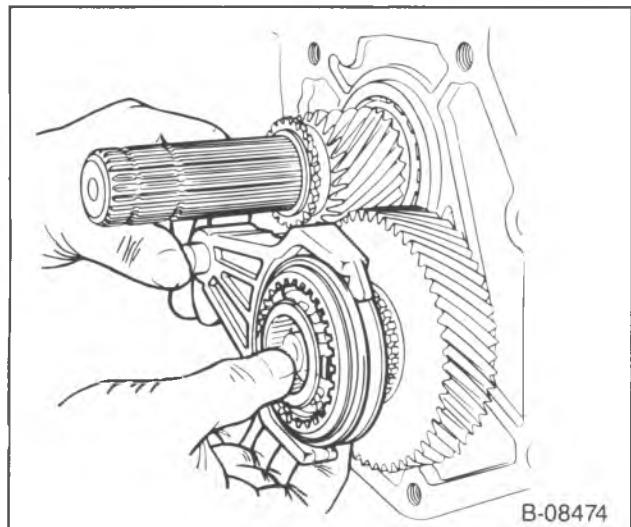

Figure 8—Removing the 5th Speed Shift Fork and the Synchronizer
- Snap ring and the 5th gear synchronizer (630) and shift fork together (figure 8).
- 5th speed blocker ring (631) and the 5th speed gear (632).
8. Speedometer drive gear (609) and the clip.
9. 5th speed driven gear snap ring (606) (5 speed only).
10. Main drive gear bearing retainer (646).